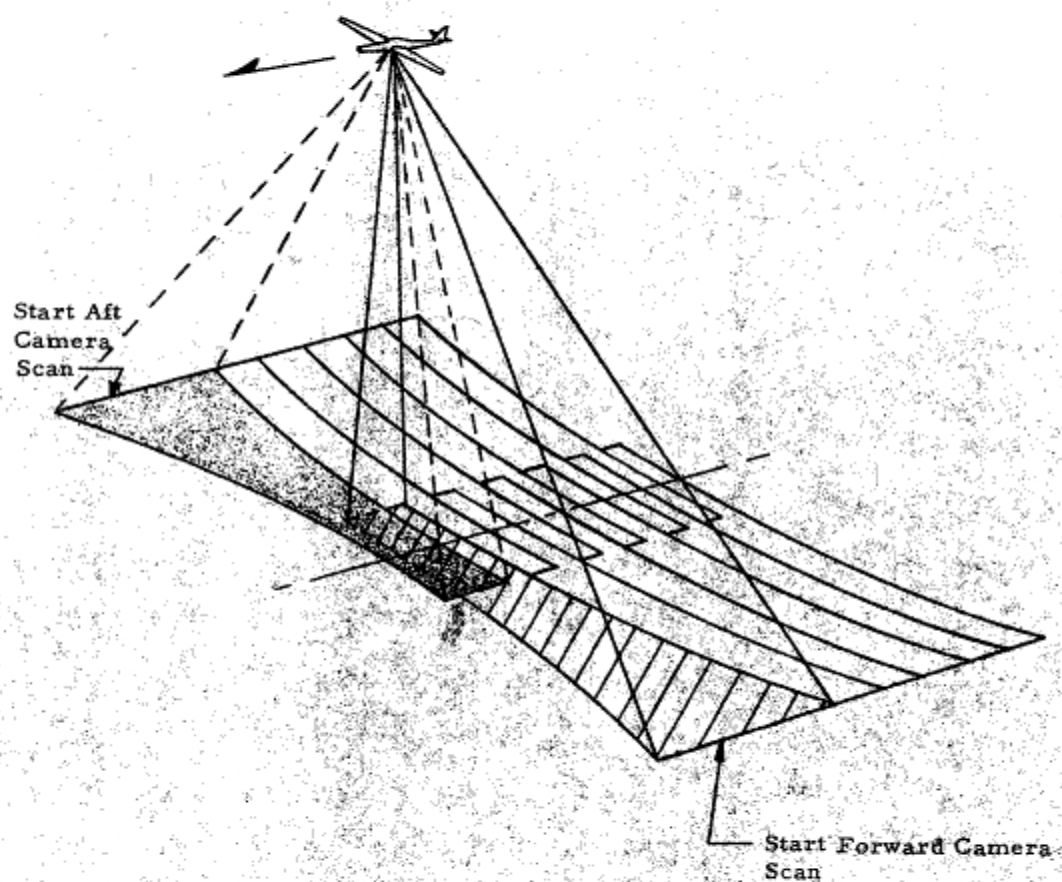

Figure 2-2. Aerial Panoramic Photography, Type II
2-3. Photographic coverage of the Type II system is represented in Figure 2-2. In normal flight attitude the two cameras simultaneously scan the earth across the ground track at the following angles measured from a line between the combined camera CG and nadir: (1) the forward camera (B unit) looks  $8.5^{\circ}$  aft and scans from  $63^{\circ}$  to the left to  $30^{\circ}$  to the right, and (2) the aft camera (A unit) looks  $8.5^{\circ}$  forward and scans from  $63^{\circ}$  to the right to  $30^{\circ}$  to the left.